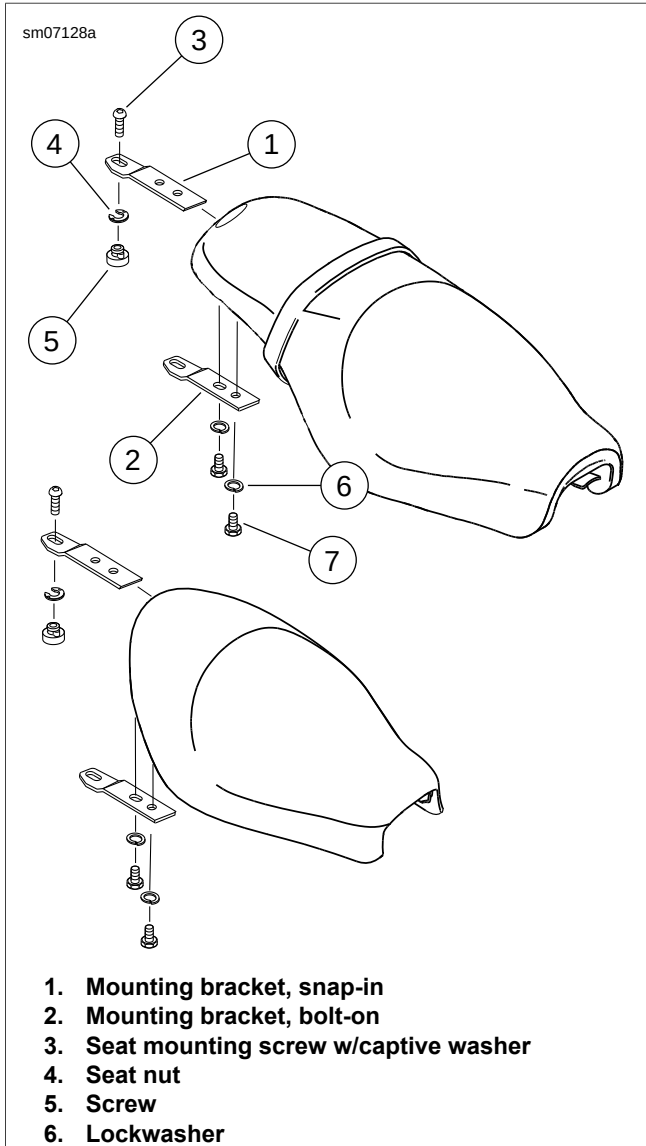

Figure 2-226. Seat Assembly: XL Models
4. See Figure 2-226. Install seat mounting screw with captive washer to fasten seat mounting bracket to top of rear fender.